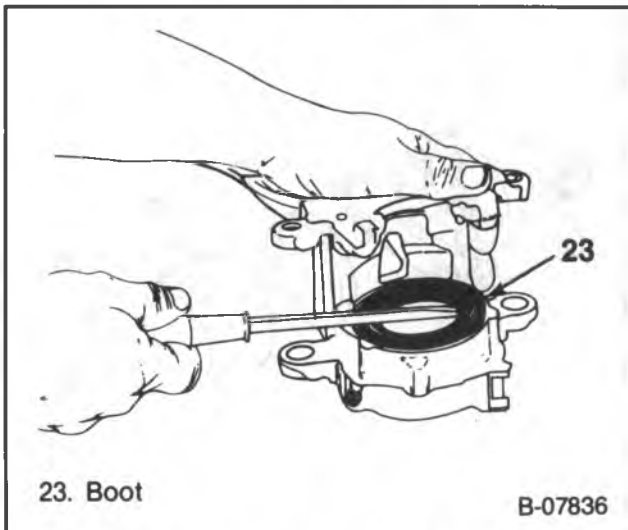

Figure 18 — Removing Caliper Piston Boot
2. Boot (23) (figure 18).
3. Piston seal (21).
4. Bleeder valve (20).